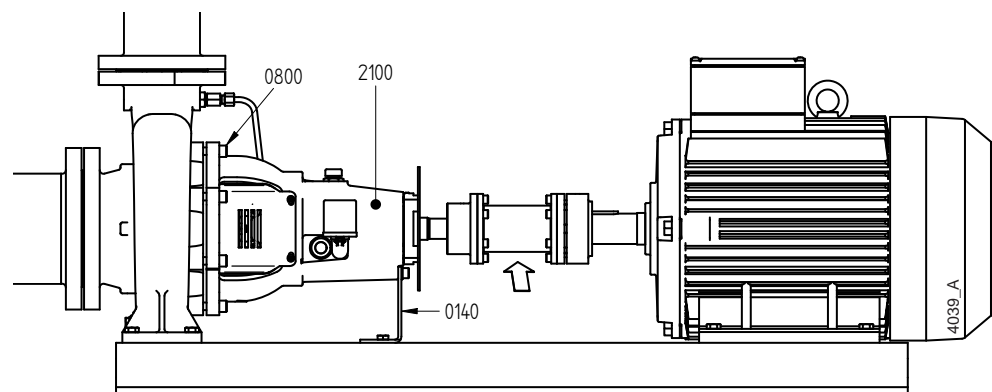
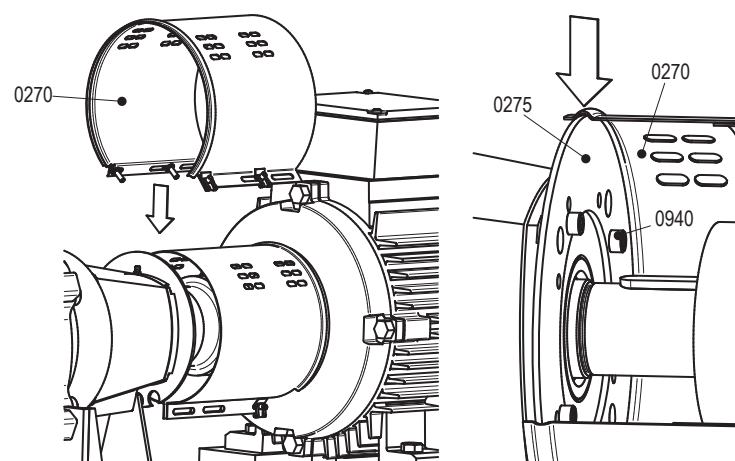

Figure 12: Back-Pull-Out principle.
Figure 16: Fitting the jacket at pump side.
- 3 Loosen the bracket support (0140) from the base plate, see figure 12.
- 6 Remove the coupling half from the pump shaft with a coupling puller and remove the coupling key (2210).
- 7 Unscrew bolts (0940) and remove the assembly plate (0275) from the bearing cover (2115). For versions L5/L6: Unscrew bolts (0940) and remove the assembly plate (0275) from the bearing holder (2840). See figure 16.
For versions L5/L6: fit the assembly plate (0275) to the bearing holder (2840) with bolts (0940). See figure 16.